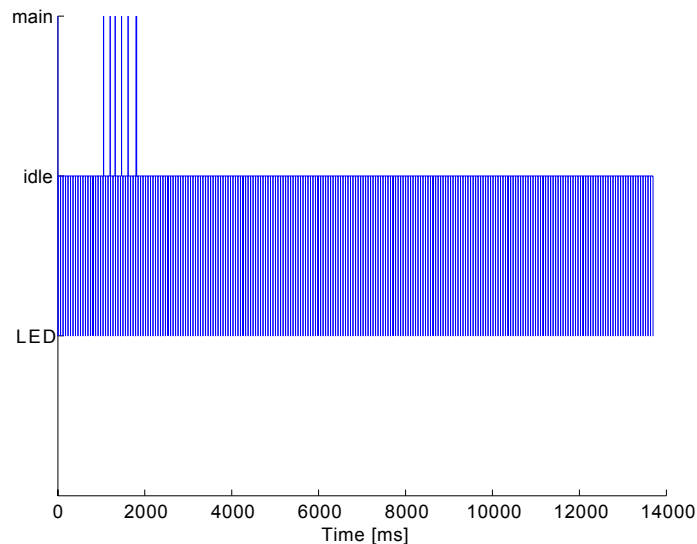

Figure 6.1: Execution of threads for the program listed in Exercise 6.6.
- The list of events does not allow you to quickly understand what is really going on. Therefore we now use the terminal program on the host computer to capture the terminal output in a file. Then we postprocess the trace file we have created in the previous step using Matlab. Thus start Matlab now. Type `show_trace('<the filename of the captured terminal output>')`, which opens a figure like the one shown in Fig. 6.1. Be sure to use a separate log file for each trace captured. In this figure, you can see time on x-axis and three threads on the y-axis.
What you can see is that the BTnode spends most of the time in the idle thread. Periodically, it switches to the LED thread and a few times, the main thread was active. The LED thread is responsible for the periodic blinking of the LEDs, it becomes active approximately every 60ms and takes about 300 $\mu$ s to execute. The main thread is responsible for capturing terminal input and launching the corresponding commands. Thus if you did not type `trace` while the buffer was filling, you will see only one spike to the main line at the very beginning of the trace. Otherwise (as shown in Fig. 6.1) you can see a spike for every letter of `trace` plus one when you pressed return. Parsing a keystroke takes about 600 $\mu$ s, executing the command after pressing enter takes much longer, approximately 6ms. When looking closely at the last spike, you may note that it actually consists of several spikes. This is due to the fact, that the `trace` command prints the status of the trace buffer to the terminal, but cannot do so in a single shot. It fills the UART buffer until it is full, then yields execution to the idle thread and is woken up when the buffer has become empty again to write the rest of the output.